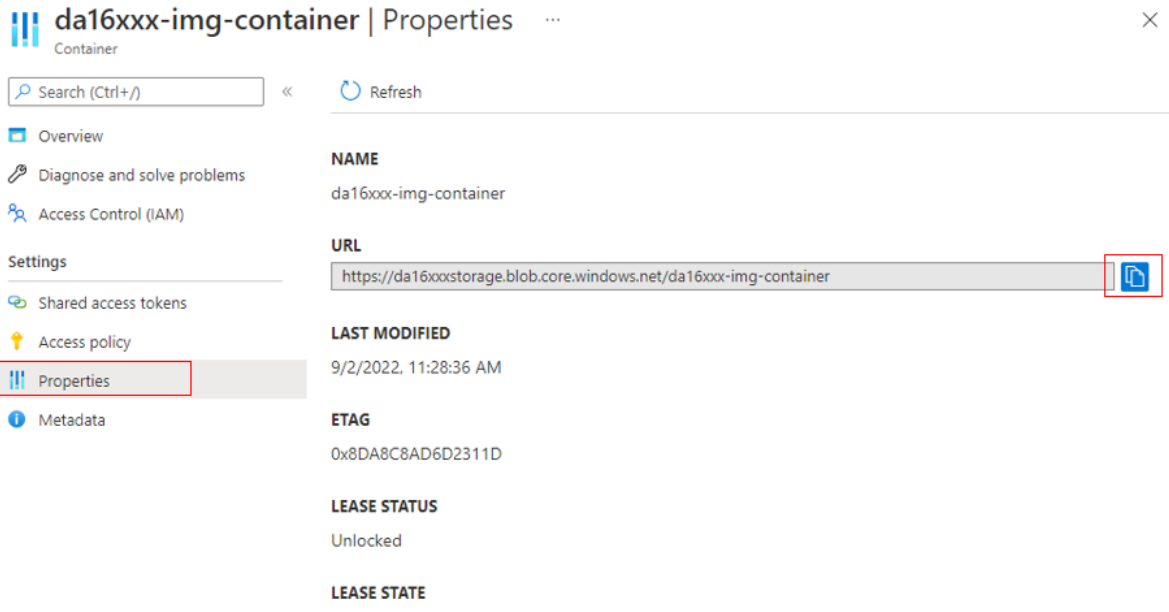

Figure 75: Copy Container URL
5. Choose **Properties**, and then click the Copy icon as shown in Figure 75 after the file is uploaded. Save the **URL** to configure the Azure Device Twin later.